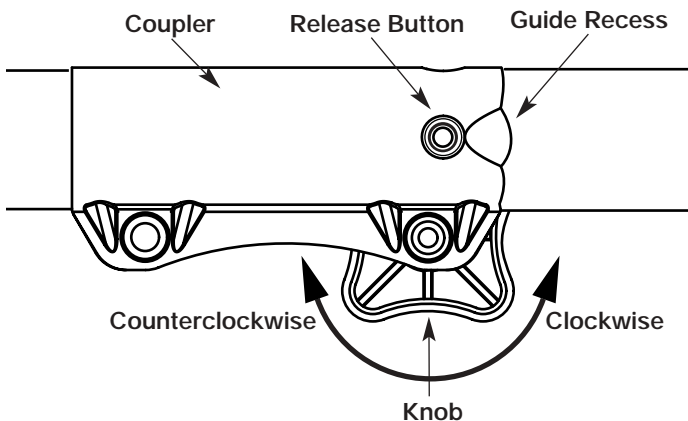

Fig. 7
1. Turn the knob counterclockwise to loosen (Fig. 7).
2. Press and hold the release button (Fig. 7).
1. Turn knob counterclockwise to loosen (Fig. 7).
NOTE: Aligning the release button with the guide recess will help installation (Fig. 7).